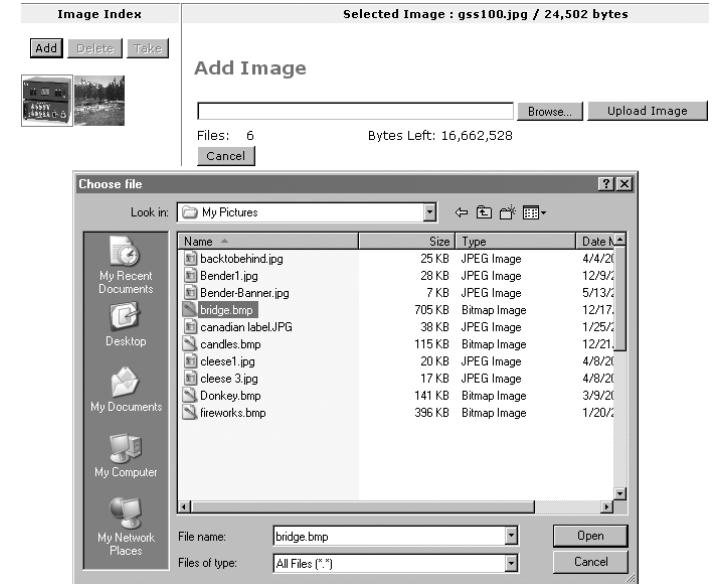

Figure 5-14 — Uploading an image
1. Click the *Add* button. The Add Image field appears (figure 5-14).